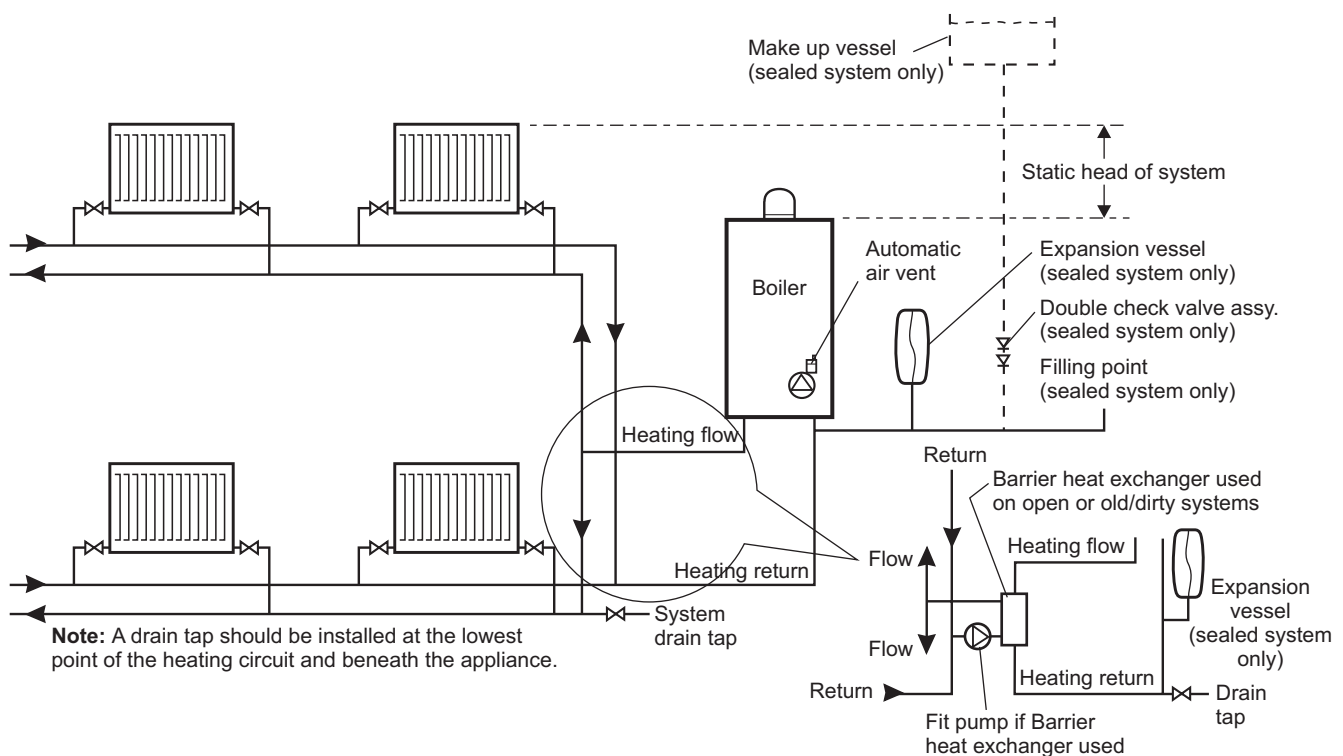
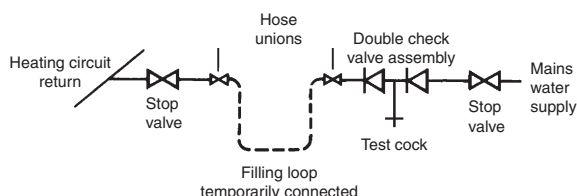
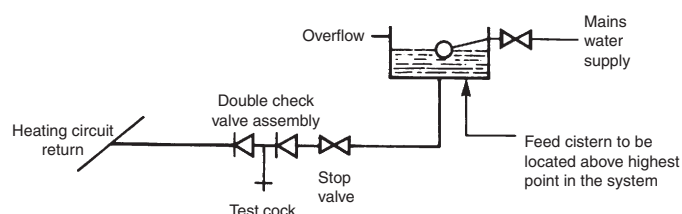

Fig. 3.3
Fig. 3.4
Fig. 3.5
3.8 CENTRAL HEATING SYSTEM - Fig. 3.3
However, if the boiler is to be used with an open central heating system refer to Fig. 3.3 and use a barrier heat exchanger (i.e. separates the boiler primary circuit from the open heating circuit). This will also ensure the boiler heat exchanger is protected from an old/dirty system.
Sealed system volume - An expansion vessel **is not** incorporated into the boiler. An expansion vessel **must be** fitted in the position shown in Fig. 3.3. To check correct operation of the expansion vessel the system pressure should not be more than 3.5 bar when the system is at maximum operating temperature (for further guidance refer to BS 7074:1). For example an 8 litre expansion vessel is suitable for a sealed system of 80 litres.
3.9 FILLING THE SEALED CENTRAL HEATING SYSTEM - Figs. 3.4, 3.6
The system design pressure (cold) should be set to 1.0 bar. This pressure is equivalent to a static head (see Fig. 3.3) of 10.2 metres of water.
Provision should be made to replace water lost from the system. This can be by manual or automatic means, as shown in Figs. 3.4 and 3.5. The position for connecting an automatic make-up vessel is indicated in Fig. 3.3. A double check valve assembly must be used, as shown in Fig. 3.5.
Filling of the system must be carried out in a manner approved by the local Water Undertaking. Where allowed, the system may be filled via a temporary connection as shown in Fig. 3.4. After filling, always disconnect the flexible hose of the filling loop.
It is essential that the central heating system is thoroughly cleaned and flushed when fitting an Alpha Pro Tec Plus boiler. Failure to do so will invalidate the warranty. If this is difficult because the system is old/dirty refer to Section 3.8, Fig. 3.3 gives consideration to using a barrier heat exchanger.